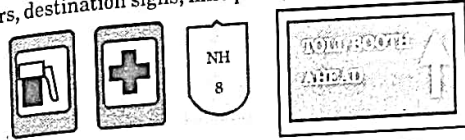

Fig. 3.15.3. Examples of informative signs.
- 4. Fig. 3.15.3 shows examples for informative signs which include route markers, destination signs, mile posts, service centre information, etc.